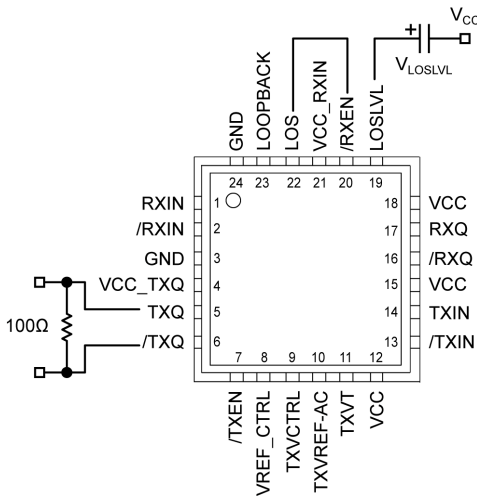

Figure 2a. Voltage Source Implementation
The SY58621L features a chatter-free Loss-of-Signal (LOS) TTL compatible output with an internal 4.75kΩ pull-up resistor. LOS circuitry monitors the input receiver signal and asserts a signal when the input signal falls below the threshold set by the programmable LOS level set pin (LOSLVL). When the amplitude of the receiver input signal falls below the threshold, LOS is asserted HIGH with a response time of ~0.2μs. LOS can be fed into /RXEN to maintain output stability by disabling the output during a Loss-of-Signal condition. Figure 2a and 2b shows the LOS connection to /RXEN. When /RXEN is HIGH, the output signal RXQ is held LOW and /RXQ is held HIGH. Typically, 2dB of LOS hysteresis is adequate to prevent the receiver output from chattering. LOS operation is optimized for data rates ≥ 622 Mbps with an input receiver amplitude of at least 10mV (20mV_{PP}). Due to the long time constant in slower data rates below 622Mbps, the SY58621L LOS function does not guarantee chatter-free operation for low amplitude signals.
between VCC and LOSLVL sets the input amplitude. LOS detection trip-point by setting up a voltage divider between VCC and V_{REF} (an internal voltage source set at $V_{CC}-1.3V$), since there is a $2.8k\Omega$ internal resistor connected between LOSLVL and V_{REF} . The input voltage range of LOSLVL ranges from V_{CC} to V_{REF} . See the “Functional Block Diagram” section and Figures 2a and 2b, to see how R_{LOSLVL} sets up a voltage divider between VCC and V_{REF} . See the “LOS Output DC Electrical Characteristics” table and “Typical Operating Characteristics” section to see how different R_{LOSLVL} values affect LOS sensitivity.
- Connecting the input /RXEN to the LOS output as shown in Figures 2a and 2b, maintains receiver output stability under a Loss-of-Signal condition